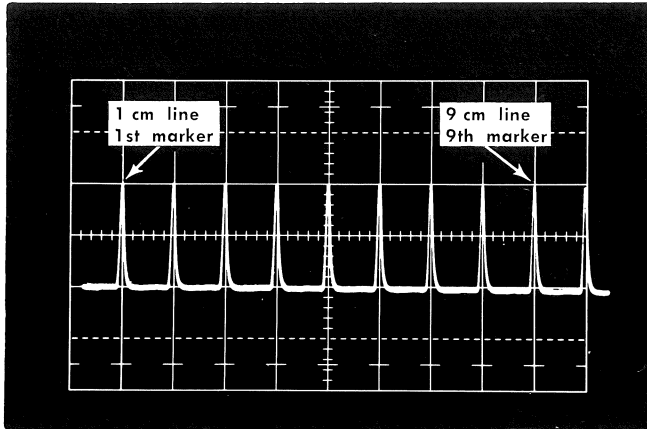

Fig. 6-1. Typical CRT display of time marks.
b. Measure the displacement of each of the markers from its respective graticule line. Each marker must coincide, within 3%, with a graticule line from the 1 cm to the 9 cm graticule lines. See Fig. 6-1.